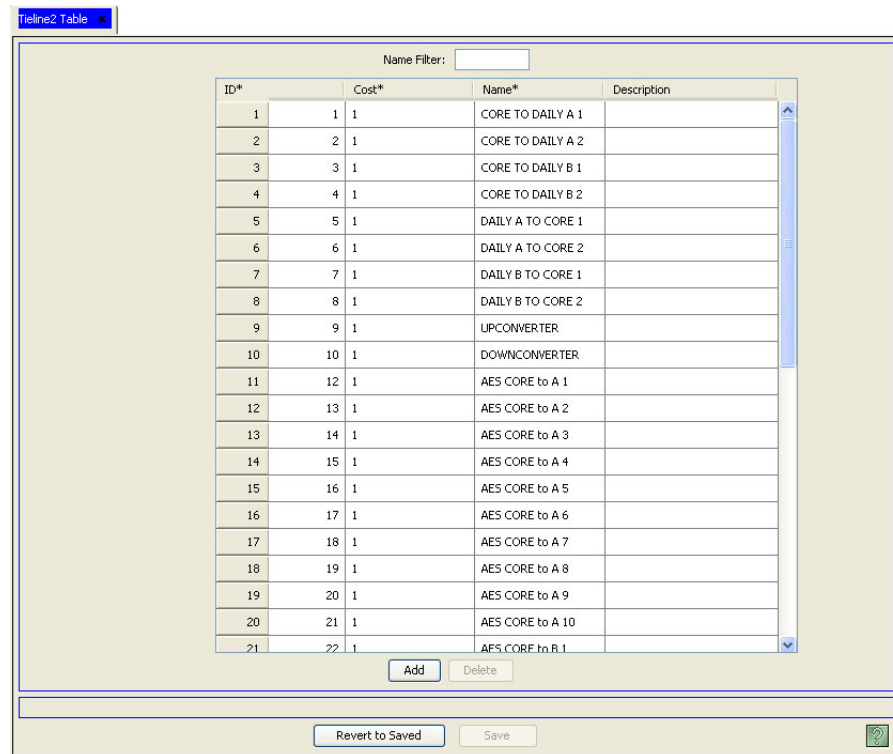

Figure 16-6. Tieline Table
- 2 From the Navigation area, select the ‘Views’ pane and then ‘Tieline’. The ‘Tieline’ table appears, as shown in Figure 16-6.